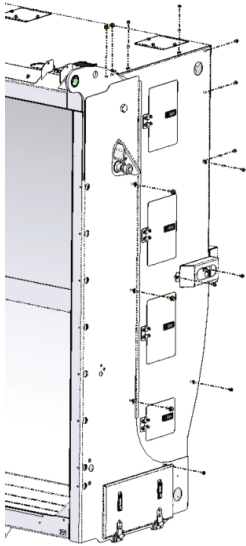
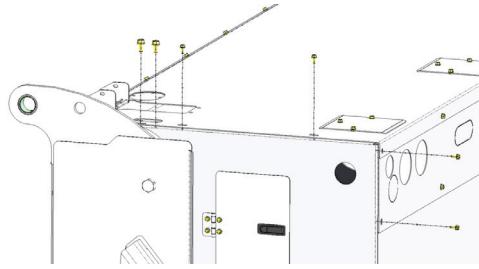
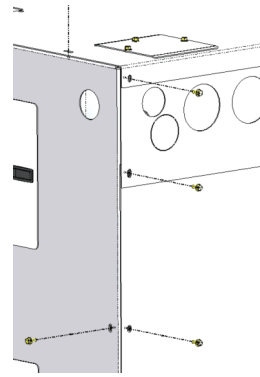

Figure 3
Figure 4
Figure 5
4. Remove and retain exterior fasteners that secure the old cover panel to the tailgate (as shown in Figure 3 forward side, Figure 4 top, and Figure 5 rear side).